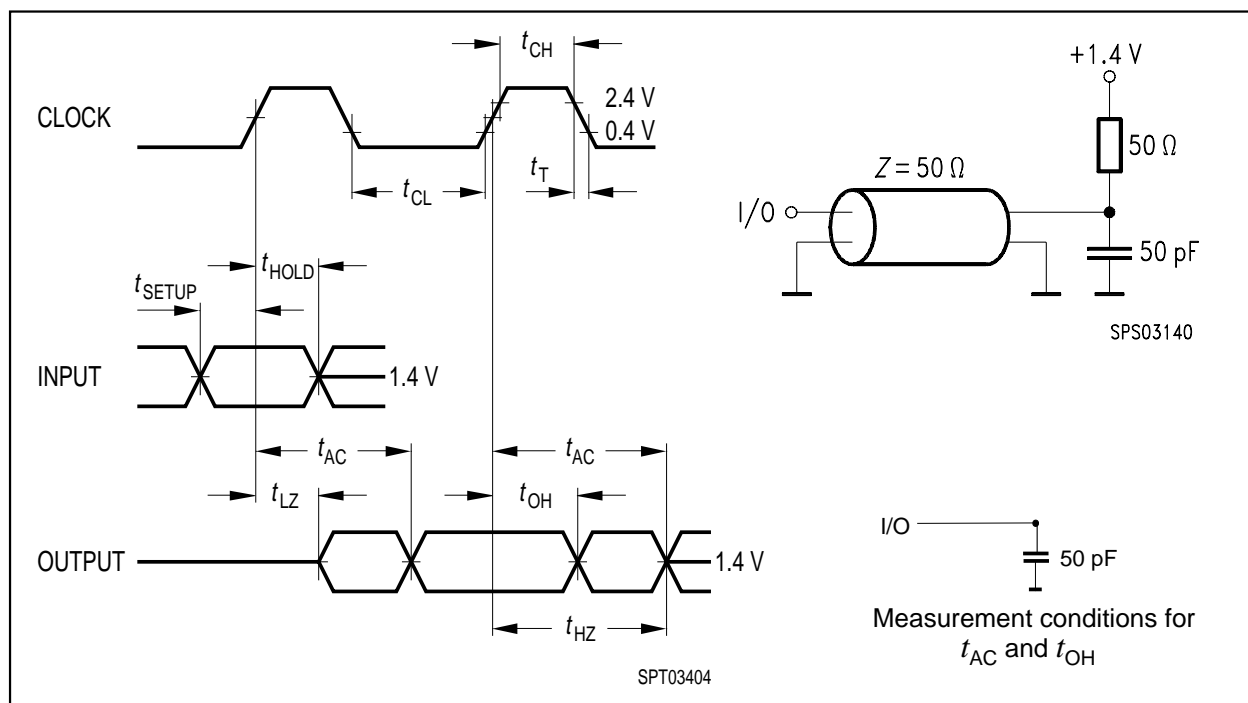

Figure 1
2. AC timing tests for LV-TTL versions have $V_{IL} = 0.4 \text{ V}$ and $V_{IH} = 2.4 \text{ V}$ with the timing referenced to the 1.4 V crossover point. The transition time is measured between V_{IH} and V_{IL} . All AC measurements assume $t_T = 1 \text{ ns}$ with the AC output load circuit shown in **Figure 1**. Specified t_{AC} and t_{OH} parameters are measured with a 50 pF only, without any resistive termination and with an input signal of 1 V/ns edge rate between 0.8 V and 2.0 V.